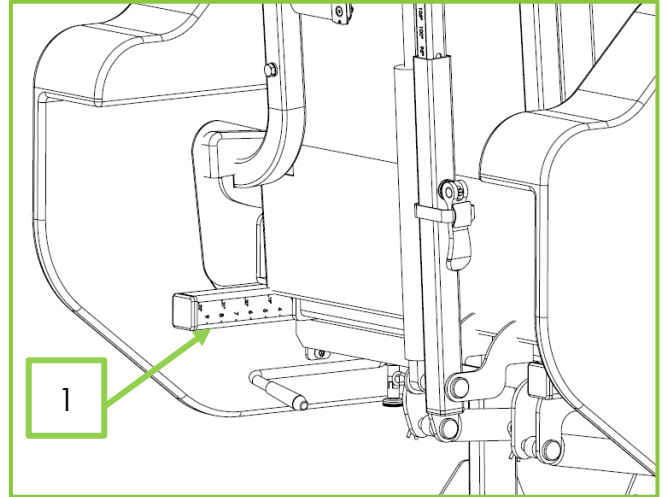

Figure 14
4. Turn the lever clockwise to release the backrest slide mechanism and move the backrest to the desired measurement with the other hand. The depth setting can be read off the scale on the back part of the seat frame (Fig 14, Item 1).